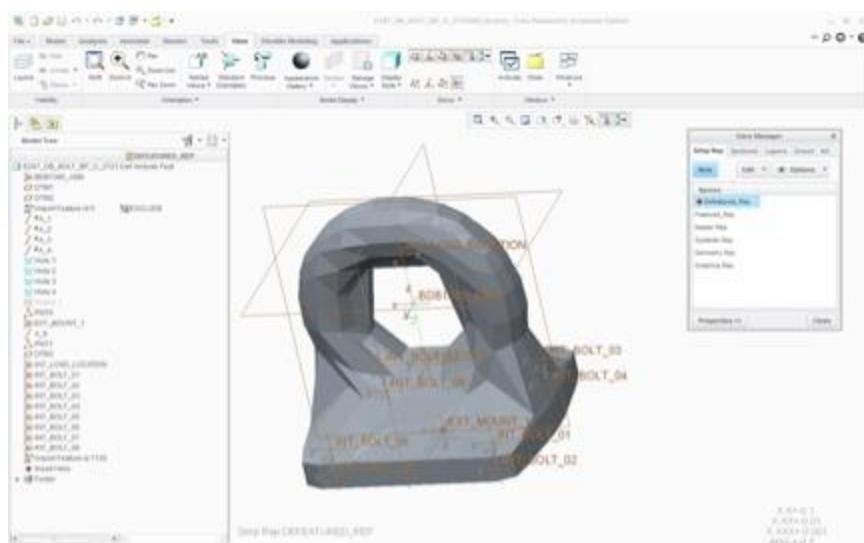

Figure 53
3. File – Open – select the newly created shrinkwrap file (see example in Figure 53)